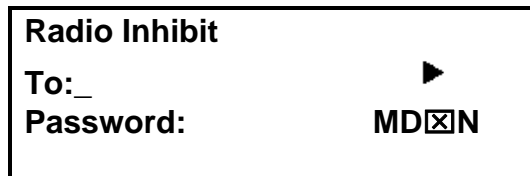

Figure 16
**To Inhibit a radio,** Press F then Press A or B until the selection is displayed then enter the target radio's ID. Press D and enter the programmed password, then Press #. The target radio will be totally disabled. If the target radio has received the Call Alert the display should show "ACK" (acknowledgement). Figure 16 shows the Radio Inhibit entry display.